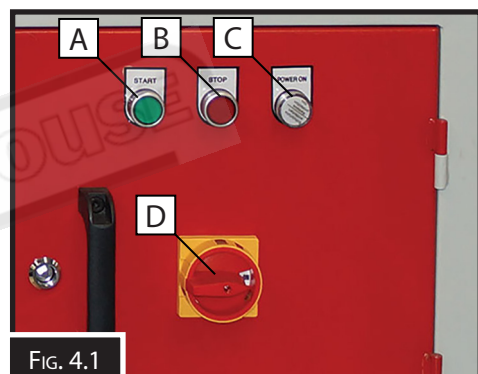

FIG. 4.1
A. ON Button. Switches the power ON to the machine. (Fig.4.1)
D. Main Isolating Switch. Isolates the machine from the power supply. (Fig.4.1)